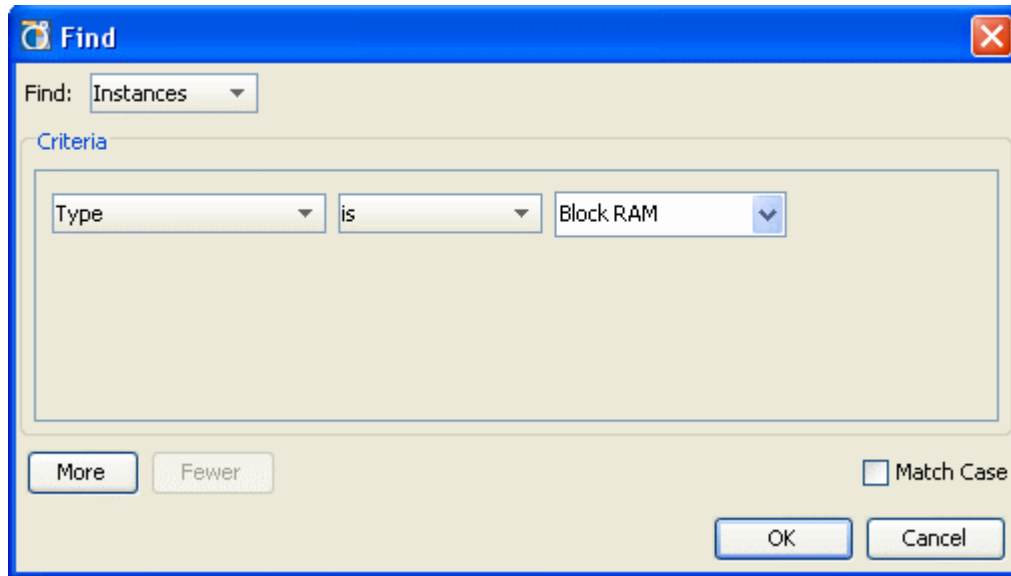

Figure 20: Searching for RTL Logic using the Find Dialog Box
- 3-5-1. Click the Find button in the main toolbar  or select **Edit > Find** to open the Find dialog box (Figure 20).